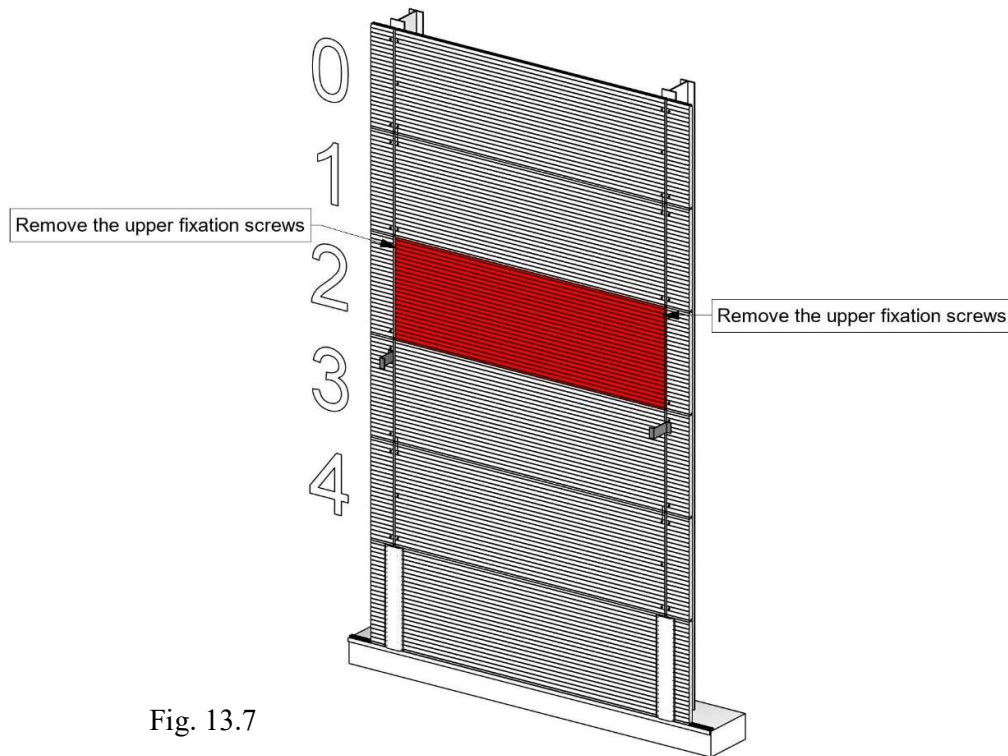
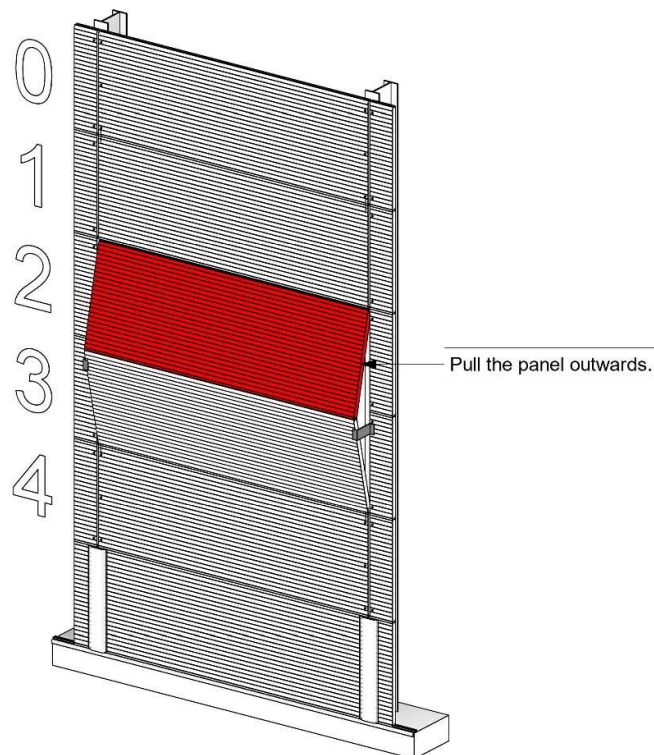

Fig. 13.7
Fig. 13.8
STEP 6. Remove the upper fixation screws from panel 2 (Figure 13.7) and pull the panel outwards (Figure 13.8). Fix the special gripping mechanism to the panel 2 and remove it.